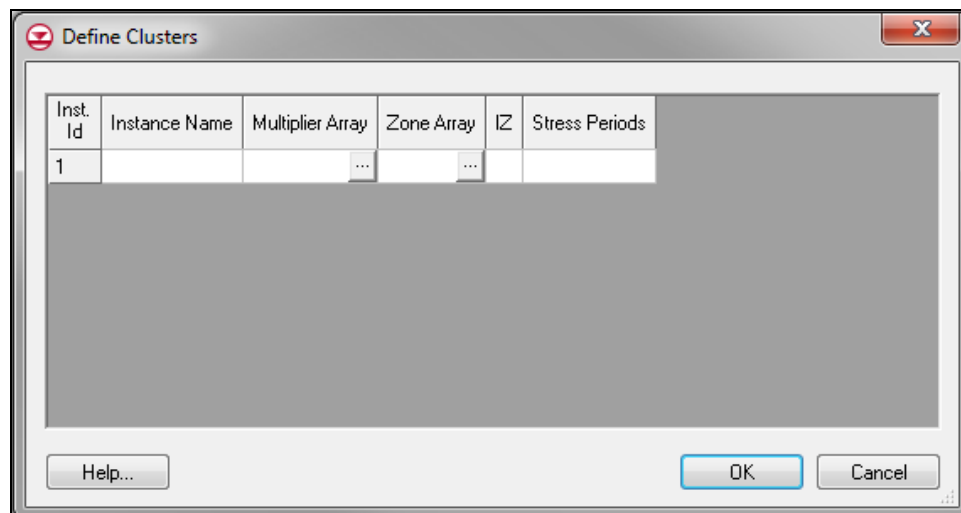

Figure 3 Define Clusters dialog with one instance and one cluster
10. In the *Define clusters* column, click the button to bring up the *Define Clusters* dialog (Figure 3).
Clusters and parameter instances are defined in the *Define Clusters* dialog. Since this is a steady state model, the example has only one instance and one cluster, and only one editable row is available in the dialog (Figure 3).